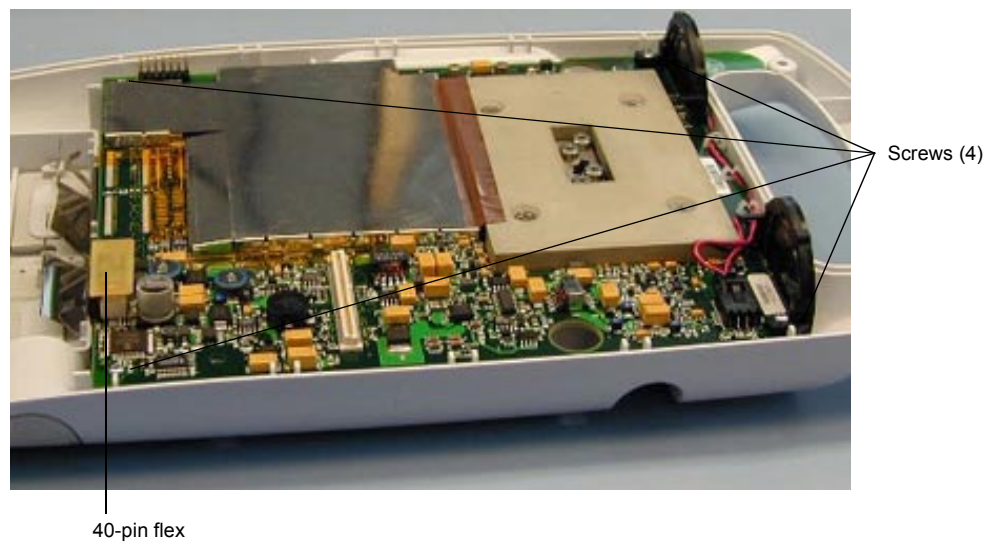

Figure 7.19 Removing the Main PCBA Subassembly from the Bottom Housing
- 7 Remove the four screws that connect the Main PCBA Subassembly to the bottom housing using a #1 Phillips screwdriver (Figure 7.19).